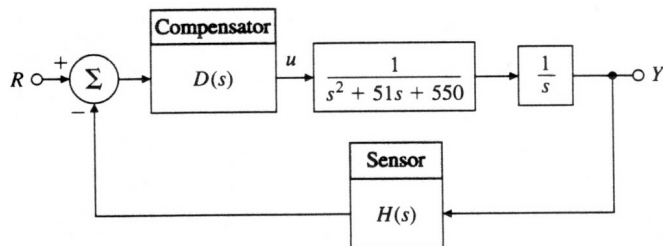

Figure 5.69: Control system for problem 40
- (g) Integral (PI) control would reduce the steady-state error to the moment to zero but would make the damping less and the settling time longer. A lead network could improve the damping of the response.
40. Consider the instrument servomechanism with the parameters given in Fig. 5.69. For each of the following cases, draw a root locus with respect to the parameter K , and indicate the location of the roots corresponding to your final design.